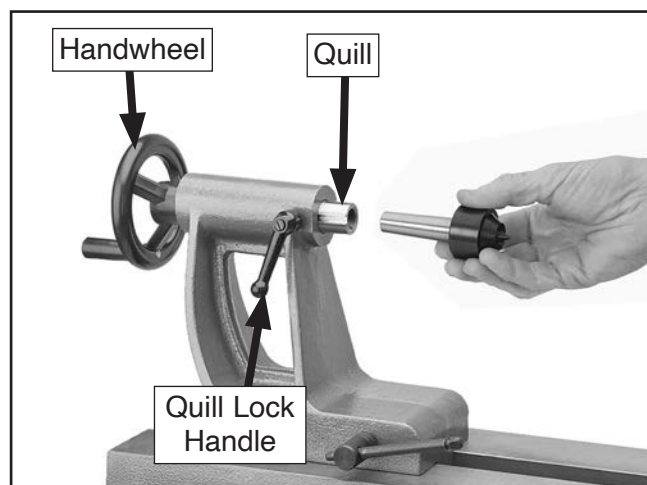

Figure 21. Installing center in tailstock quill.
1. Loosen quill lock handle, and rotate handwheel until quill extends about 1", as shown in **Figure 21**.
3. Firmly insert tapered end of center into tailstock quill, as shown in **Figure 21**.